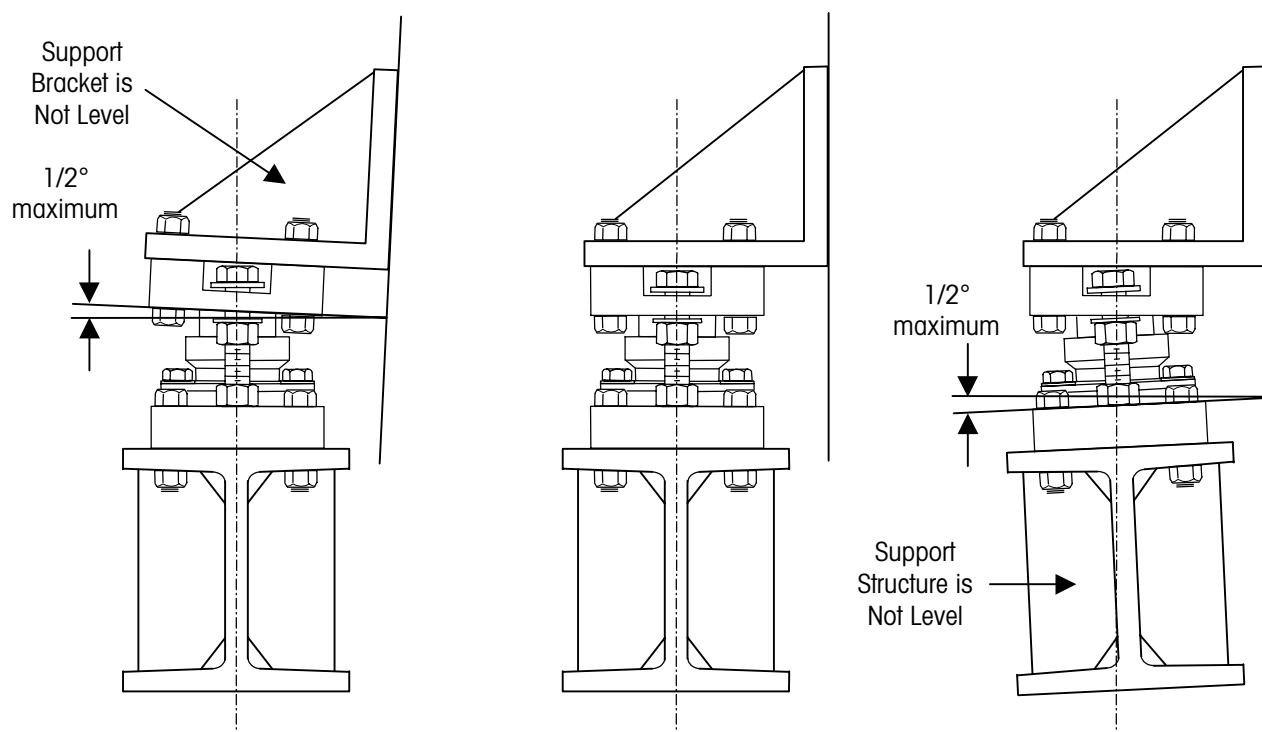

Figure 3-10: Maximum Amount that a Mounting Plate can be out of Level
2. Level each weigh module so that each mounting plate (top and base plate) is within $1/2^\circ$ of level in both longitudinal and lateral directions (see Figure 3-10).